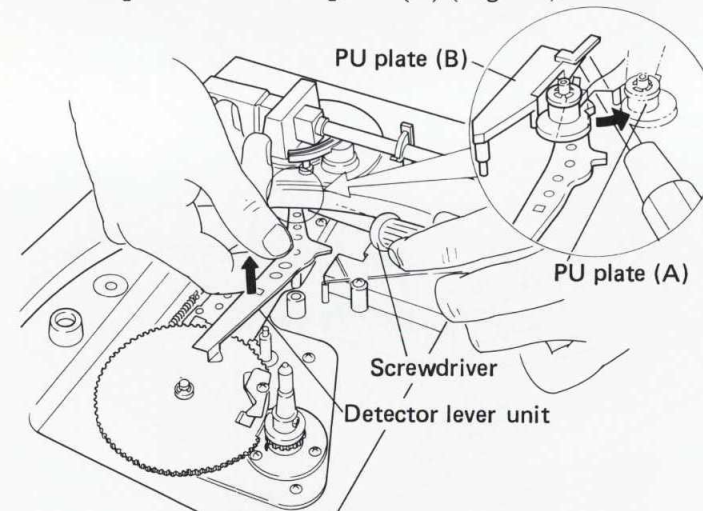

Fig. 3-1 Remove detector lever unit
1. Hold the detector lever unit with your right hand as shown in Fig. 3-1, open the PU plate (A) and PU plate (B) of the PU plate (B) assembly with your left hand, and carefully pull out the detector lever unit upward.
2. Install the detector lever unit in reverse sequence of the removal. In this case, however, note that the detector lever unit will be bent when the pin portion (A) is in contact with the detector lever unit and the detector lever unit is pushed hard.